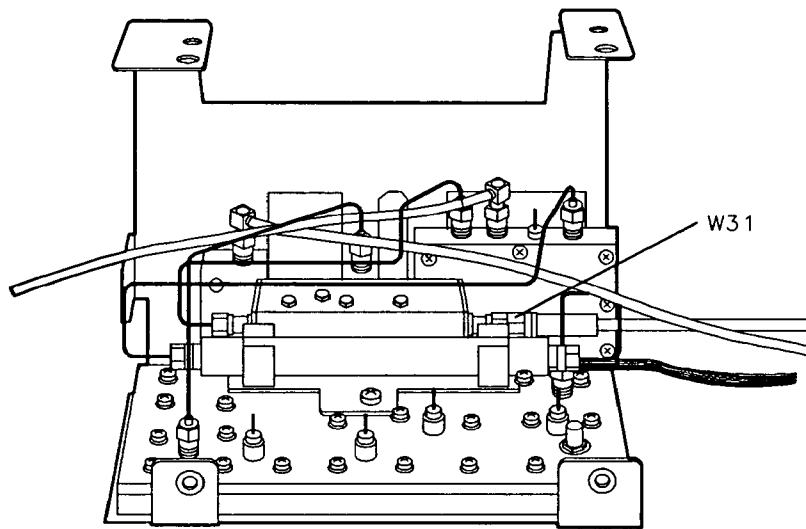

Figure 3-25. Attaching RF OUT Cable W31
2. Connect the black RF OUT cable W31 to the COUPLED AC connector on the TG assembly's attenuator. See Figure 3-25. Connect the end of the cable that does not bend 90°.